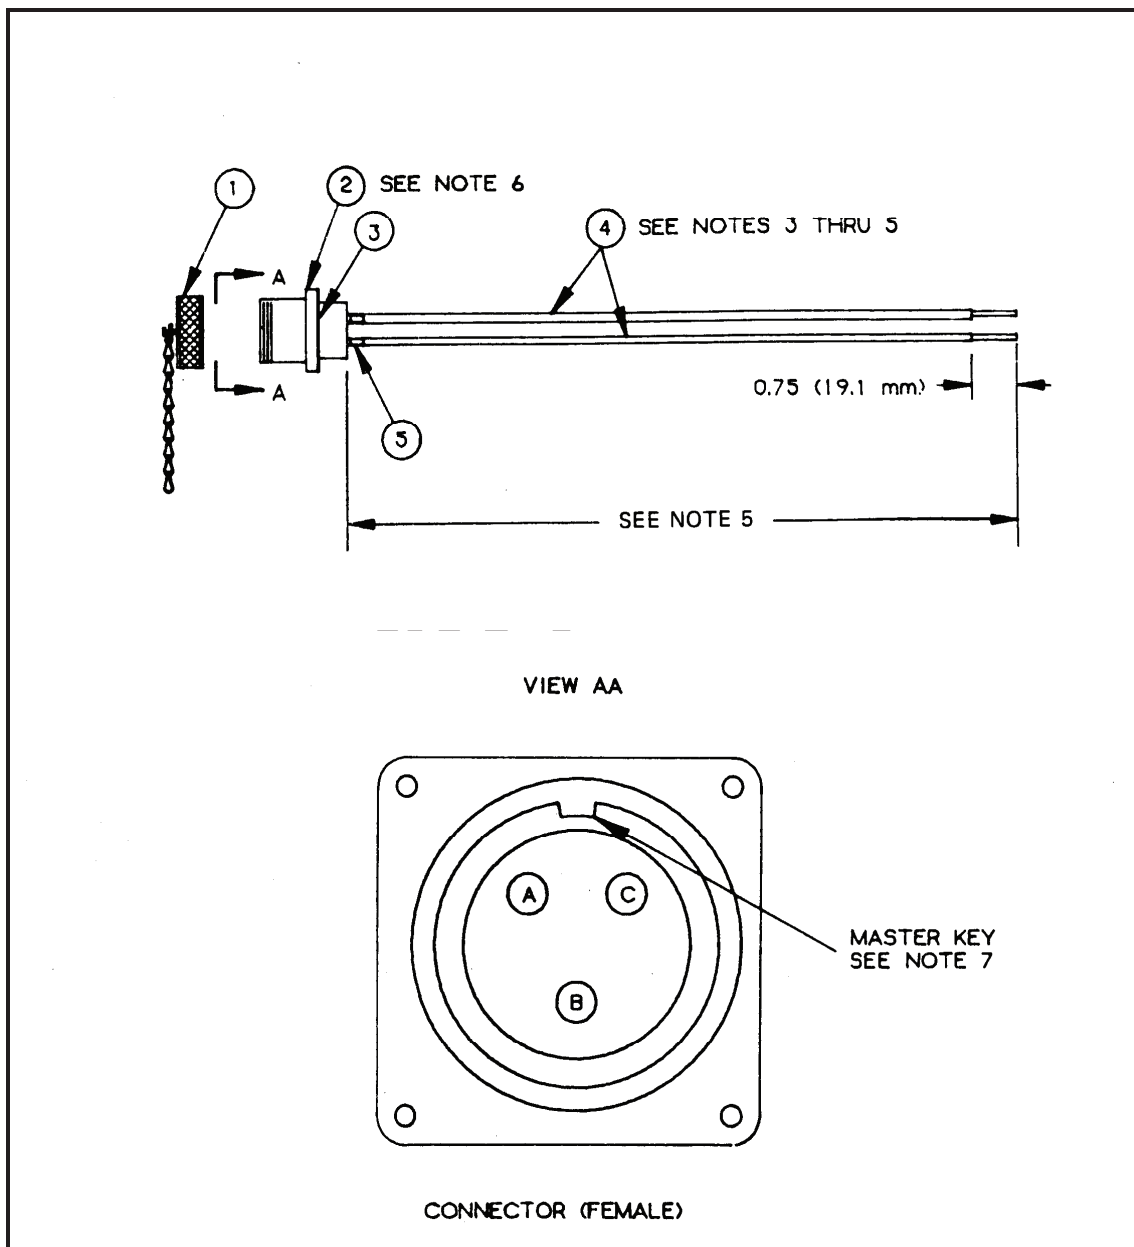

Figure F-34. Feeder Center Output Connector Assemblies, M200/100 A/P (PDISE) 20-Amp.
Component Legend for Figure F-34
- c. Electrical connector (Figure F-34, Item 2) is furnished with the following: